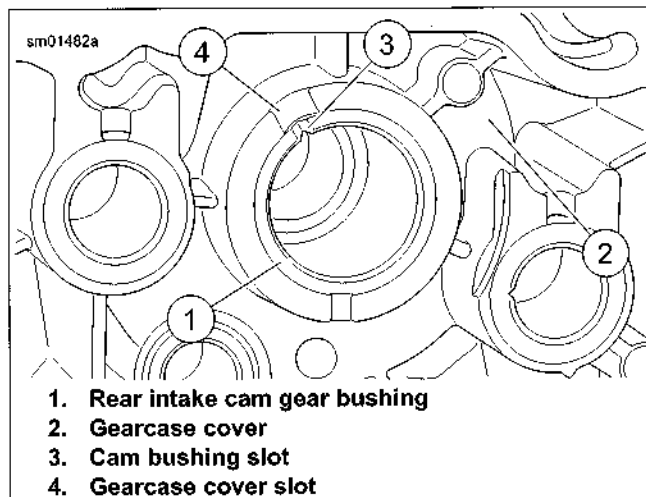

Figure 3-88. Rear Intake Cam Gear Bushing Installed in Gearcase Cover
1. See Figure 3-88. Position bushing (1) over bore of gearcase cover (2) with chamfered edge downward and slot upward. Align slot in bushing with slot in gearcase cover boss. Press bushing into cover bore until bushing is flush with cover boss.